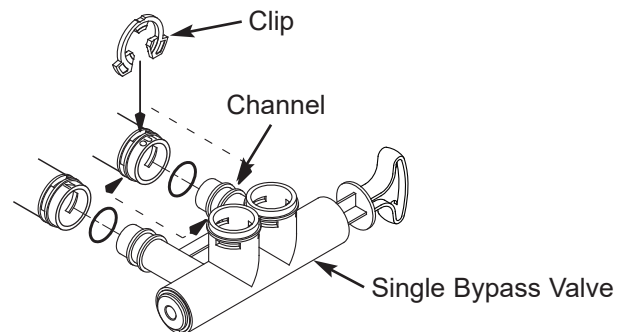

FIG. 12
5. Push the single bypass valve into the softener valve as far as it will go. Snap the two large holding clips into place, from the top down as shown in Figures 12 & 13.